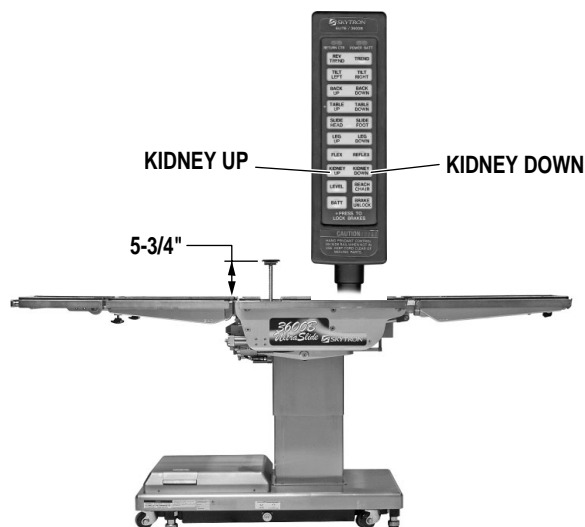

Figure 2-13. Kidney Lift Positioning
**i. Kidney Lift.** To raise the built-in kidney lift, press the KIDNEY UP button (figure 2-13). Up to 5-3/4" of lift can be achieved. Press the KIDNEY DOWN button to lower the kidney lift.